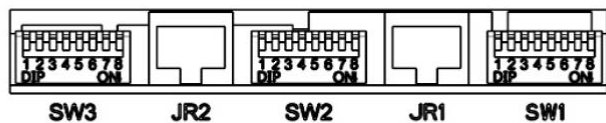

**Figure 2.21 UPS module parallel bus connectors**
The module connections are made to two fixed connectors attached to the top of the module’s front plate, as shown in Figure 2.21 (A). Two locating spigots are fitted at the sides of these connectors to ensure that when the module is pushed into position the connectors correctly align with their respective sockets located on the top of the module frame (B). The alignment is aided by an insulated bar (C) which slide into a channel fixed to the roof of the frame.